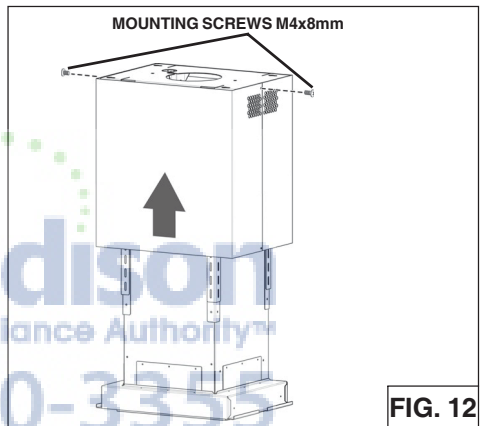

FIG. 12
3. Attached the **upper flue** to the upper support frame by mounting screws M4x8mm (Fig.12).
5. Attach the **upper flue** to the upper support frame by the mounting screws M4x8mm (Fig.12).